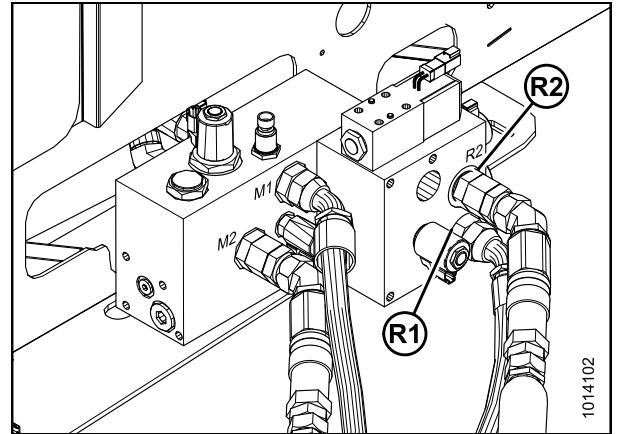

Figure 3.96: M200 Windrower Hose Connections with Reverser
If the windrower is equipped with a reverser valve for an auger header, replace the 90° fitting on hose (D) with a 45° fitting. Refer to Figure 3.96: M200 Windrower Hose Connections with Reverser, page 51.